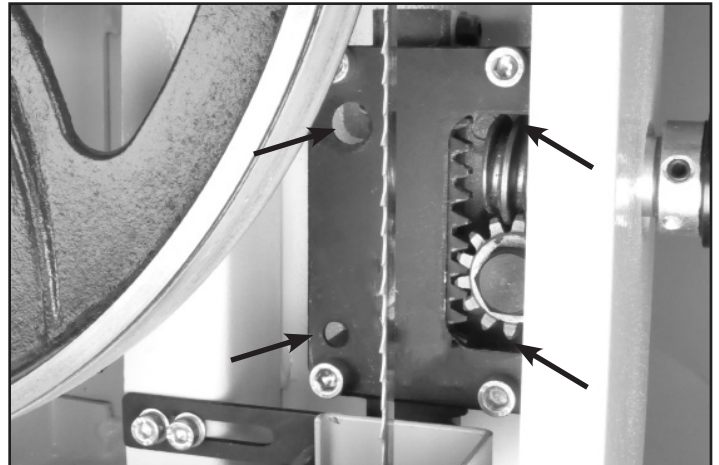

FIGURE 31
3. Open the top door and lower the blade guard all the way down to the table to access the Guide Bracket (#4C). Fig. 31.
5. There are also four Set Screws (#5C) set in the rear of the guide bracket near the corners. If the guard post needs to be angled slightly towards the front or back of the table, or even twisted on an angle, make the adjustment with these screws. Fig. 31.